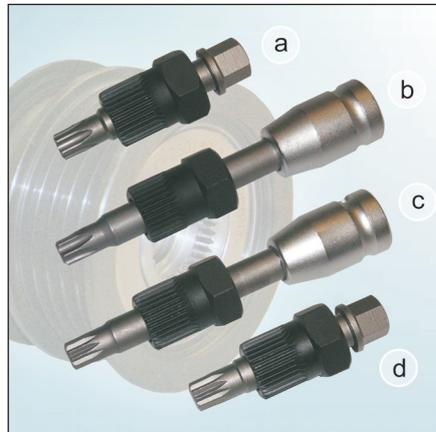

Fig. 2: Special tools overview
5. Assemble the Over-Running Alternator Pulley 535 0116 10 with the relevant special tool (see fig. 2)